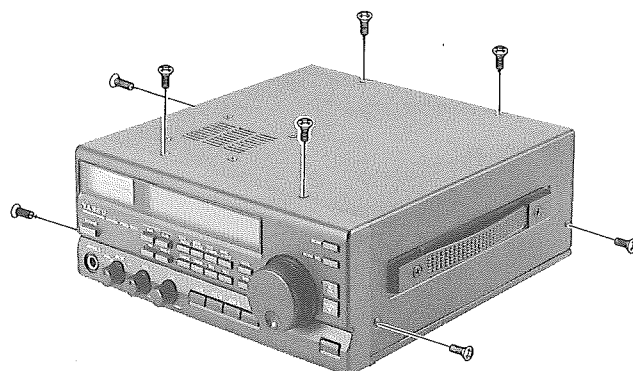

Figure 1: Top Cover Removal
- ☐ Place the set on stable work surface with the front facing you, and remove the eight screws affixing the top cover (Figure 1). Do not remove the four screws attaching the loudspeaker, or the screws attaching the carrying handle. Slowly lift the top cover off.